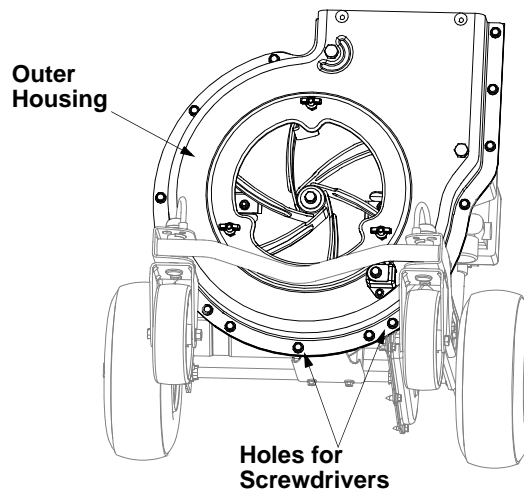

Figure 18
- Place the outer housing against the inner housing. See Figure 18. Insert two screwdrivers into the holes to hold the blades in place while attaching the outer housing.